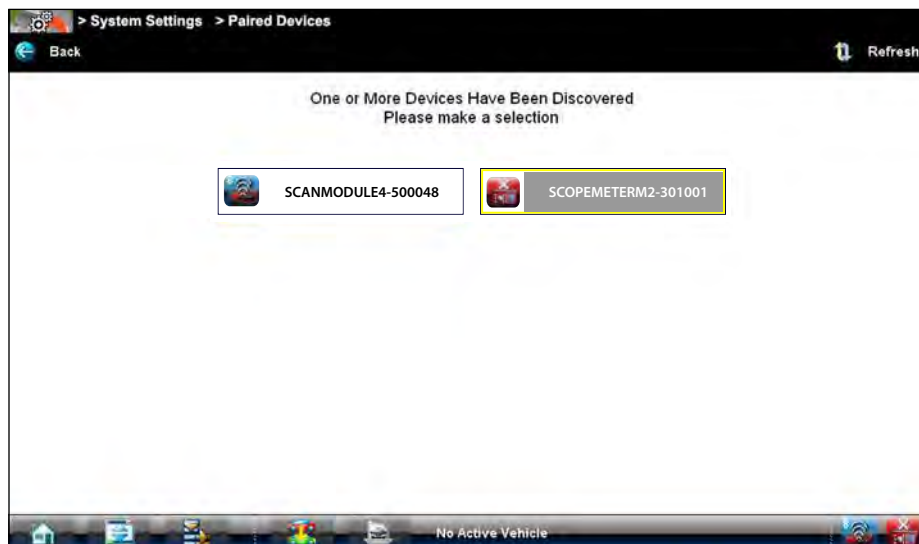

Figure 14-4 Typical Device selection
11. Select the **M2 Scope/Meter** from the search results list (Figure 14-4).